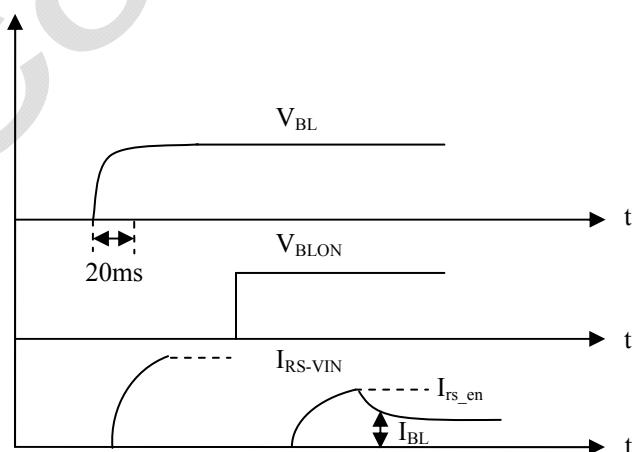

Fig. 3.4 The timing sequence diagram of inrush current measurement
(1) Dimming ratio = 100% (Max.) ( $T_A = 25 \pm 5^\circ\text{C}$ , Turn on for 45minutes).
(2) The measurement condition: VBL rising time is 20 ms. (VBL from 10% ~ 90%), the sequence diagram is shown as Fig. 3.4.
(3) Normal: 0 ~ 0.8V; Abnormal: Open collector.